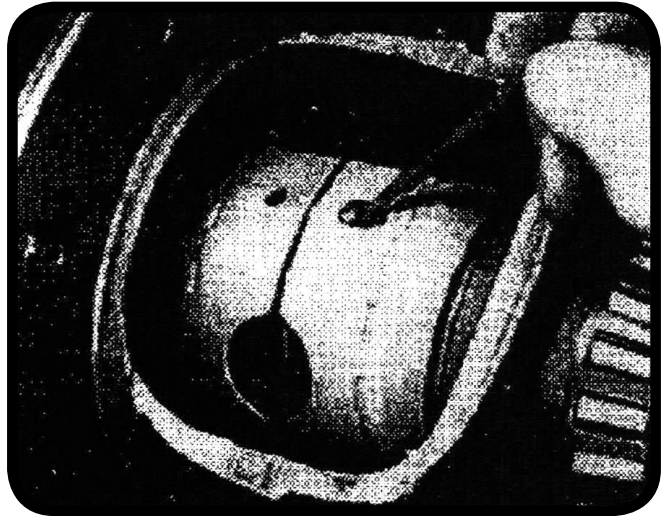

Figure 9
2. Push the pin out of the window hole and into the pin hole in the opposite driver with a small pointed tool (**Figure 9**).